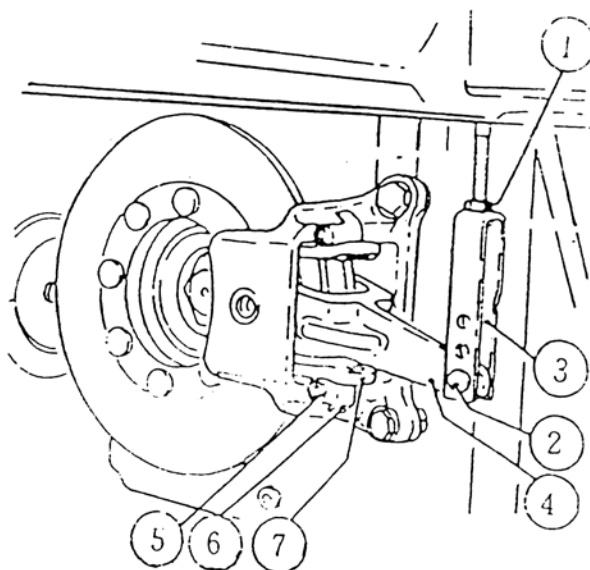

Fig.52
1. Loosen lock nut (Fig.52/1) for some turns.
2. Remove pin (Fig 52/2)
3. Loosen the forked piece from brake lever (4) and screw it on some turns (Fig 52/3)
4. Put forked piece (3) on brake lever (4) install pin (2) and tighten lock nut (1) (Fig 52/4)
1. Loosen screw (Fig 52/5) and remove locking plate (6).
2. Pull out lining support (7) along the direction of brake level (4) to loosen brake level until the brake linings fall out.